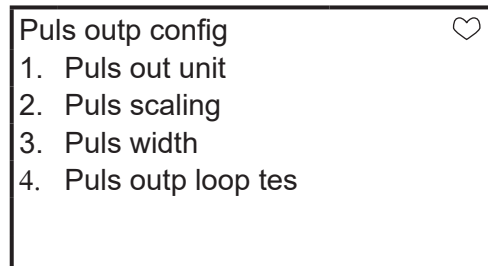

Figure 24 Transmitting the setting
- After returning to the Puls outp config menu, select F2 (SEND) to transmit the change to the converter. The HART communicator mark will appear in the upper right hand corner of the display while HART is communicating with device. (Figure 24) The mark will disappear once communication has been properly completed.
3. After returning to the Puls output config menu, select F2 (SEND) to transmit the change to the converter. The HART Communicator mark will appear in the upper right hand corner while HART is communicating with the device. (Figure 24) The mark will disappear once communication has been properly completed.
3. After returning to the totalizer menu, press F2 (SEND) to transmit the change to the converter. The HART Communicator mark will appear in the upper right hand corner while HART is communicating with the device. (Figure 24) The mark will disappear once communication has been properly completed.